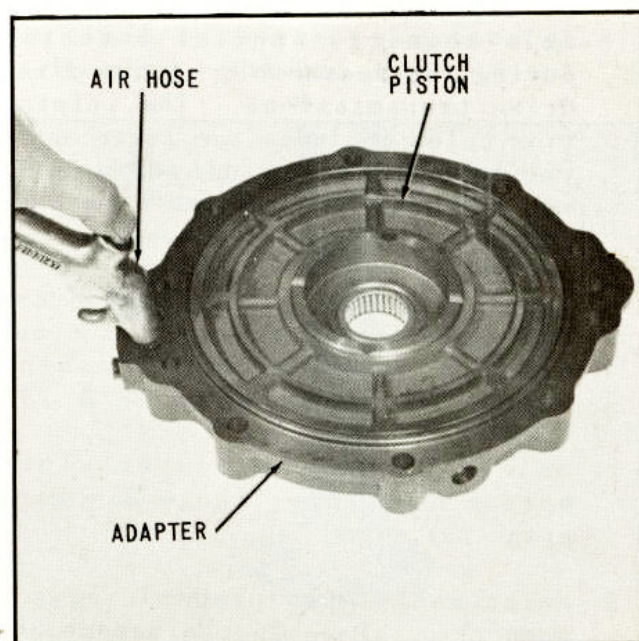

Fig. 14 Disassembling Reverse Clutch Piston from Adapter
12. Force compressed air into reverse clutch cavity while holding piston, as shown in (Fig. 14) and piston will pop up out of reverse clutch cavity.